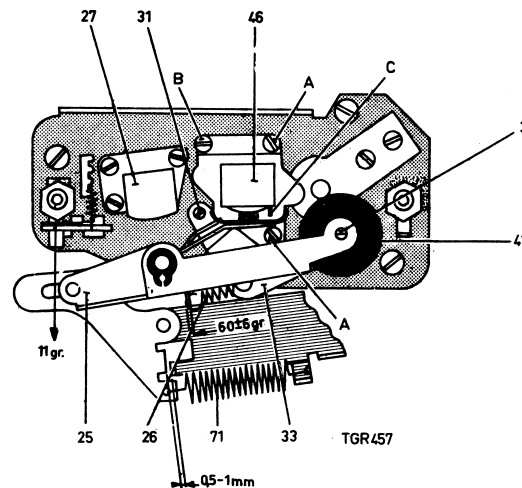

Fig. 7
- Remove pin 31 from the apparatus (see Fig. 7).